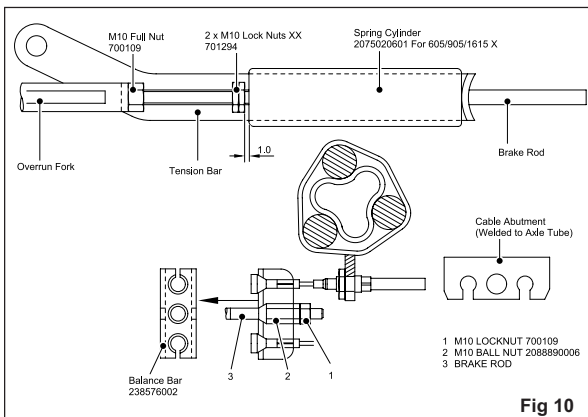

**Fig 9**
embossed on the backplate until there is resistance in the wheel rotation (Fig. 9).
- Slacken off the starwheel adjuster until the road wheel turns freely in the forward direction (Fig. 9).